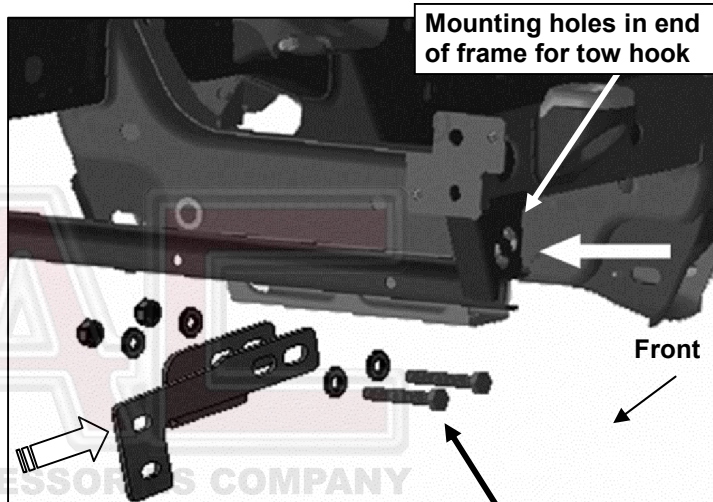

Fig 8
3. Line up the (2) holes in the Bracket with the (2) holes in the frame for the tow hook. Select (2) 12mm x 80mm Long Hex Bolts and (2) 12mm Flat Washers, (**Figure 8**). Insert the Bolts with Washers through the Bracket and the (2) holes through the frame, (**Figure 7**). Secure with (2) 12mm Flat Washers and (2) 12mm Nylon Lock Nuts. Do not fully tighten hardware at this time.